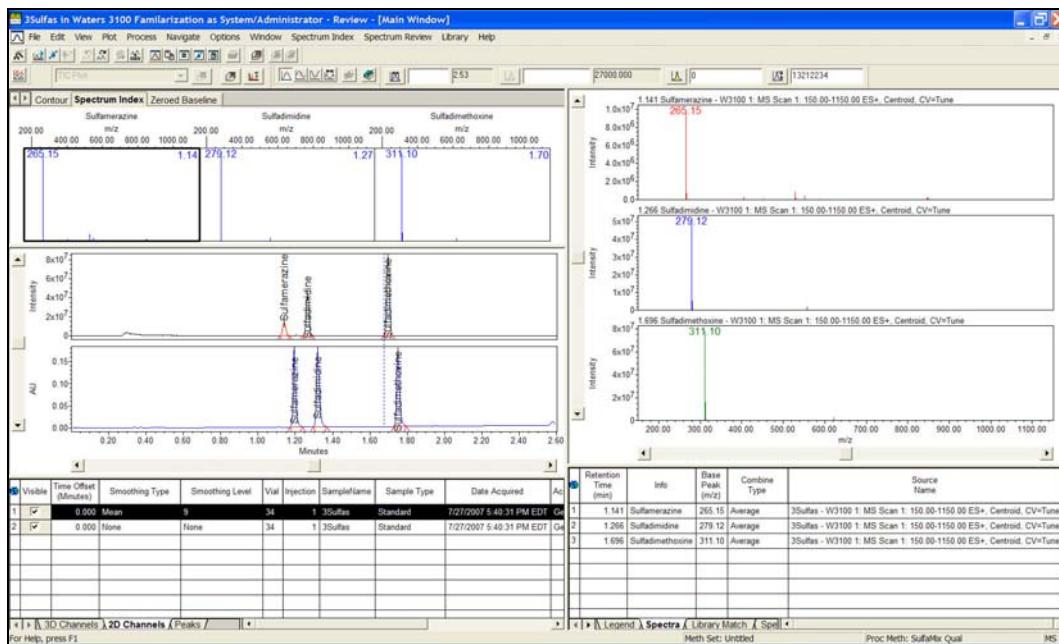

Figure 178 - Chromatograms in overlay
- Select the **All Choms in Overlay** check box, and then click **OK** to display both the MS and PDA chromatograms, see Figure 178.